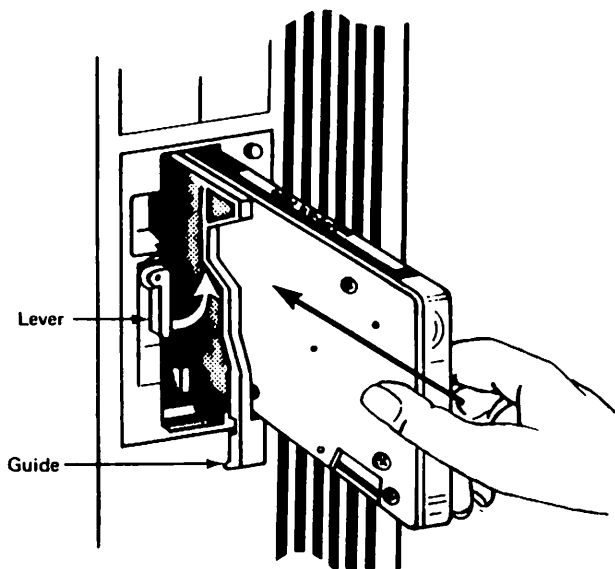

Figure 4
Figure 4 shows one model of tape drive. The drive has a lever that makes a quarter turn to lock or unlock the cartridge. Use the following procedure to install a data cartridge in the model of drive with the quarter-turn handle.
1. Turn the lever clockwise 1 quarter turn to unblock the drive unit slot (Figure 4).